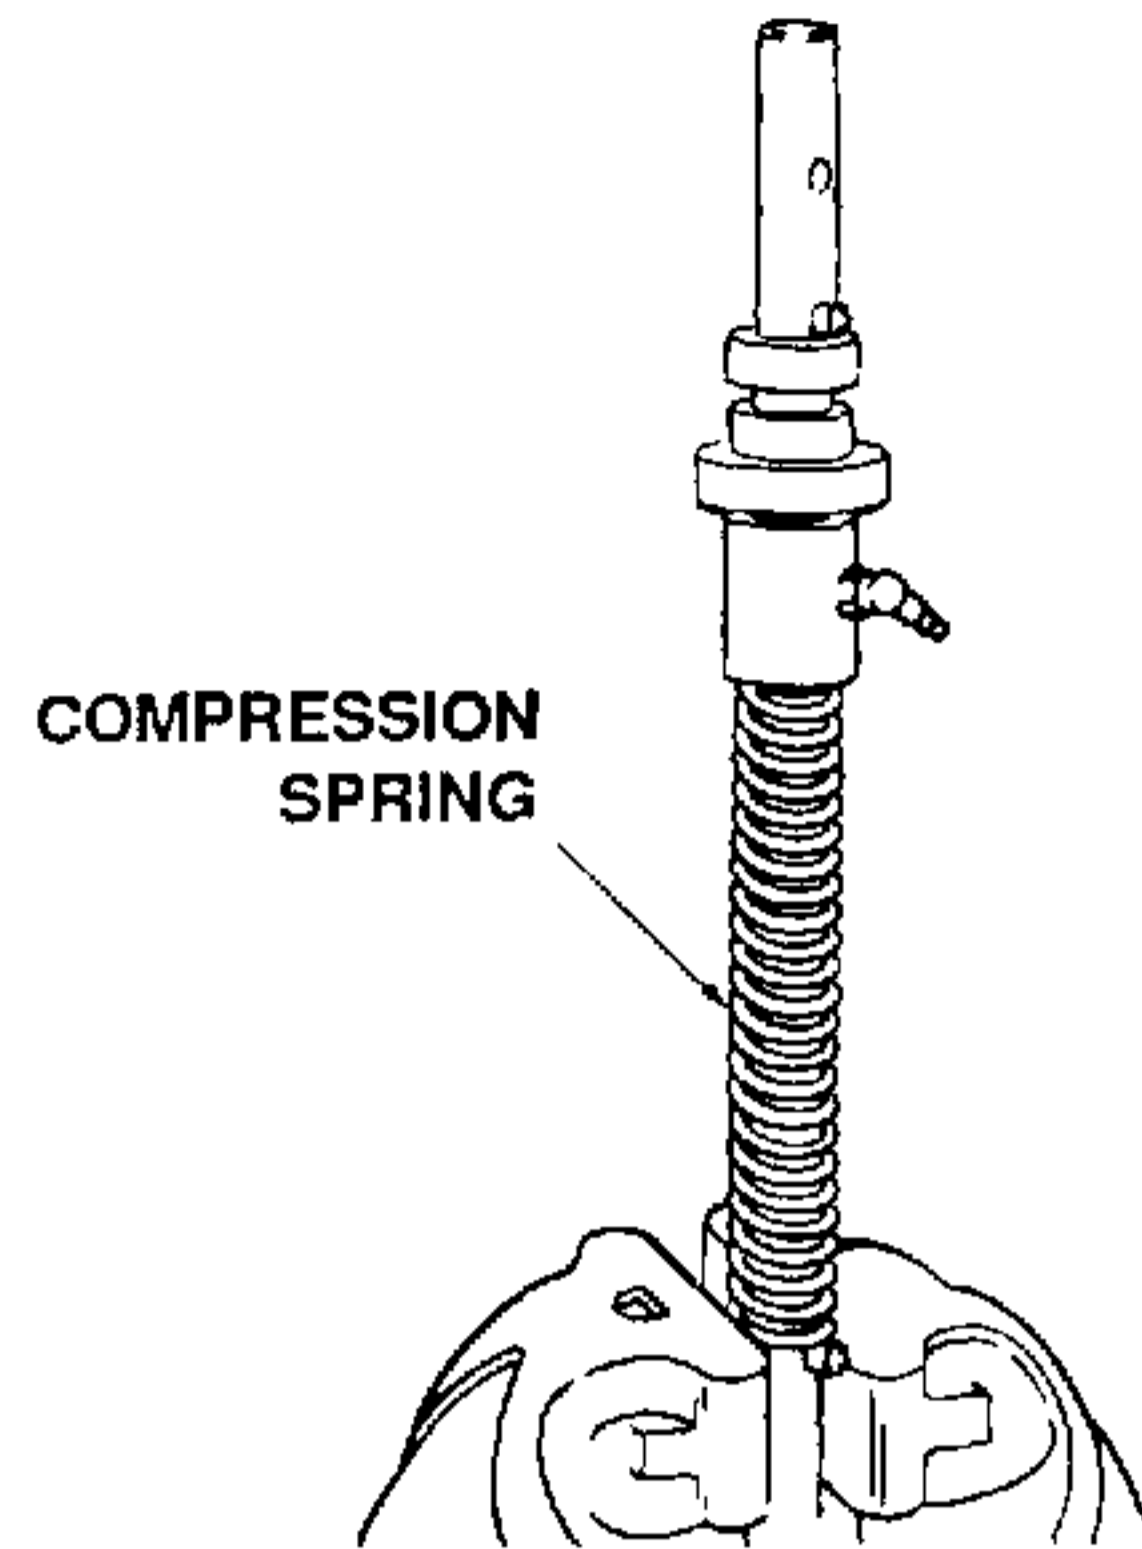

Figure 5-90. Clamping Drive Shaft In Vise.
1. Disassemble drive shaft (6) as follows:
- a. Remove pressure plate locating hub assembly (28) by removing spiral spring pin.
- b. Remove clutch friction disc (29) and pressure plate hub assembly (30), and release lever (17).
- c. Clamp drive shaft (6) snugly in a vise equipped with brass jaws. Refer to Figure 5-90.
1. Reassemble clutch driving disc (22) by installing drive studs (24), flat washers (3) and hex jam nuts (25).
2. Reassemble drive shaft (6) as follows:
- a. Install flat washer (37), compressions spring (36), lube fitting (35), throwout bearing (34), spacer (33) and compression spring (32).
- b. Clamp drive shaft snugly in a vise equipped with brass jaws. Refer to Figure 5-90.